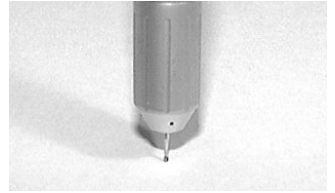

Fig.12
- (1) As the chuck of the PRESTO AQUA handpiece is a push-in type, set FG burs of $\phi 1.6\text{mm}$ and push in as shown in Fig.12